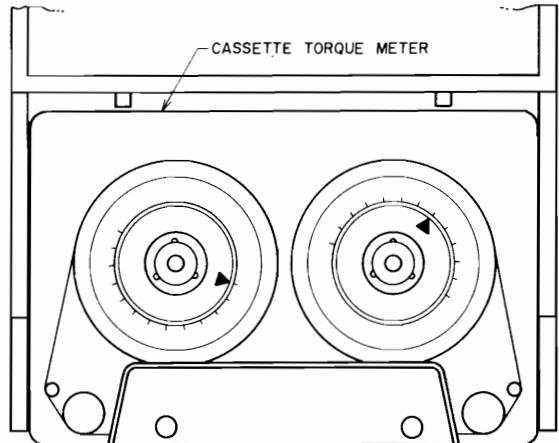

Fig. 9
8. TAKE-UP TORQUE AT VARIOUS MODES AND TORQUE MEASURING METHOD (See Fig. 9)
As shown in Fig. 9, set a cassette torque meter on cassette base, and take a reading of the ▲ indication at each respective mode.